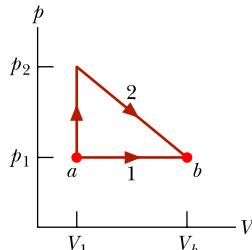

Figure 18.37 Problem 98.
**98** The *p*-*V* diagram in Fig. 18.37 shows two paths along which a sample of gas can be taken from state *a* to state *b*, where  $V_b = 3.0V_1$ . Path 1 requires that energy equal to  $5.0p_1V_1$  be transferred to the gas as heat. Path 2 requires that energy equal to  $5.5p_1V_1$  be transferred to the gas as heat. What is the ratio  $p_2/p_1$ ?